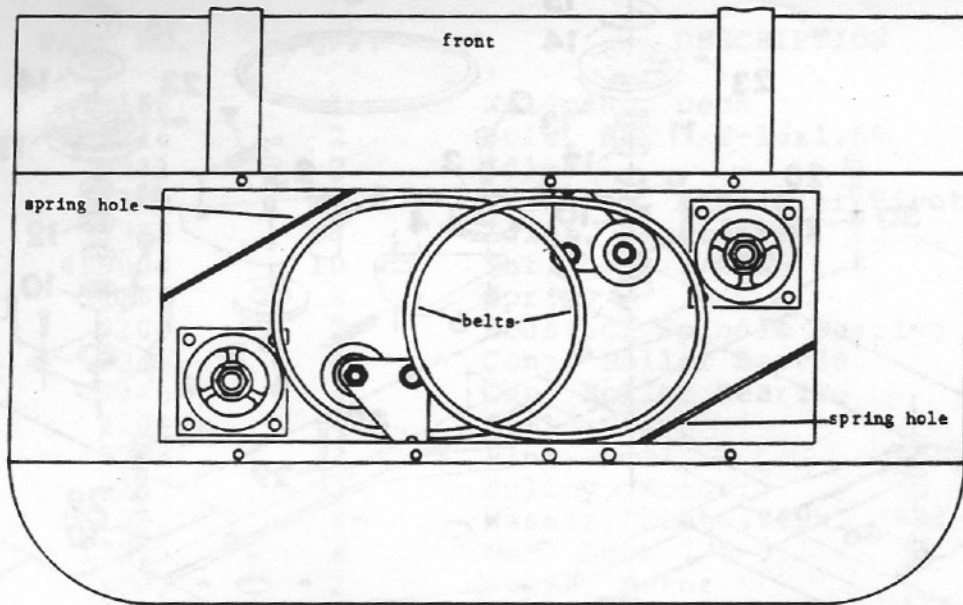

FIGURE 4
- 6.8 From the side of the deck pull the spring hooks into the spring holes as shown in Figures 4 and 5.